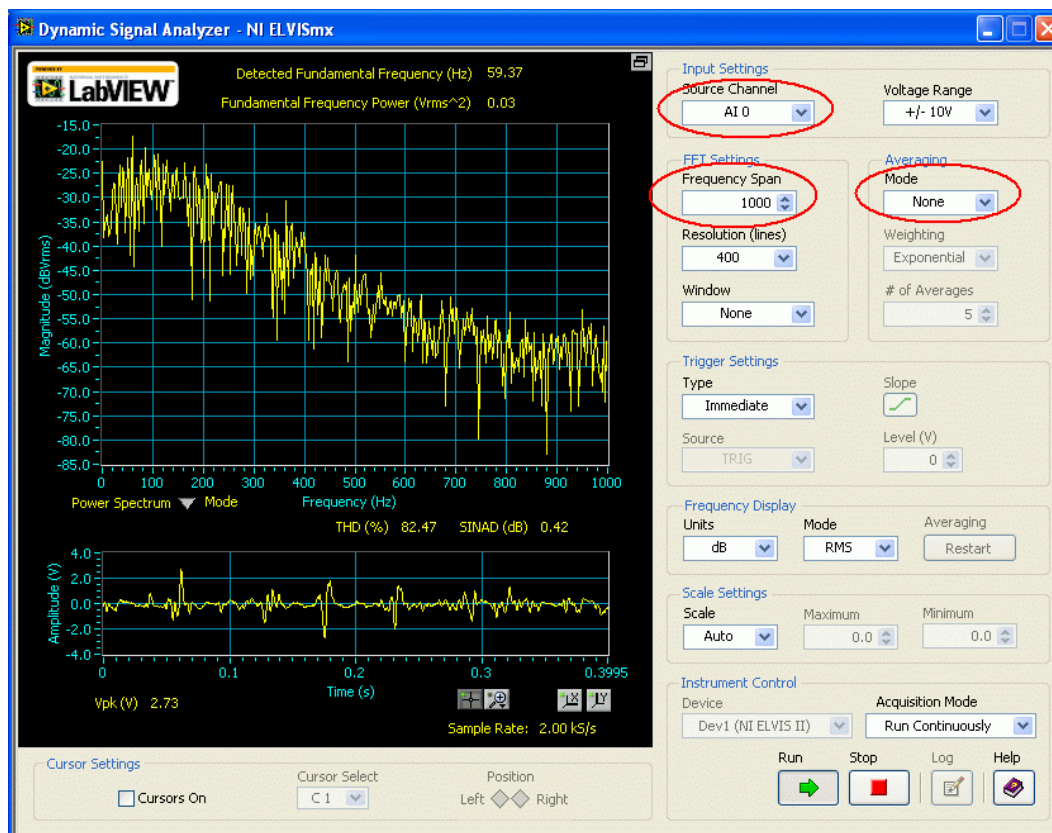

Figure 1.3: Setting up the Dynamic Signal Analyzer instrument
The NI ELVISmx Dynamic Signal Analyser, shown in Figure 1.3, is used to verify that the EMG sensor has been properly setup.
6. As shown in Figure 1.3, set the following in the Dynamic Signal Analyzer instrument:
7. Try to contract the muscles in your forearm and examine the voltage measured from the EMG sensor in the bottom scope called Amplitude (V). As shown in Figure 1.3, the peak should exceed 2.0 V when the muscles are contracted. If not, then the EMG sensor has not been properly setup and you need to go through Steps 1 to 3 again.